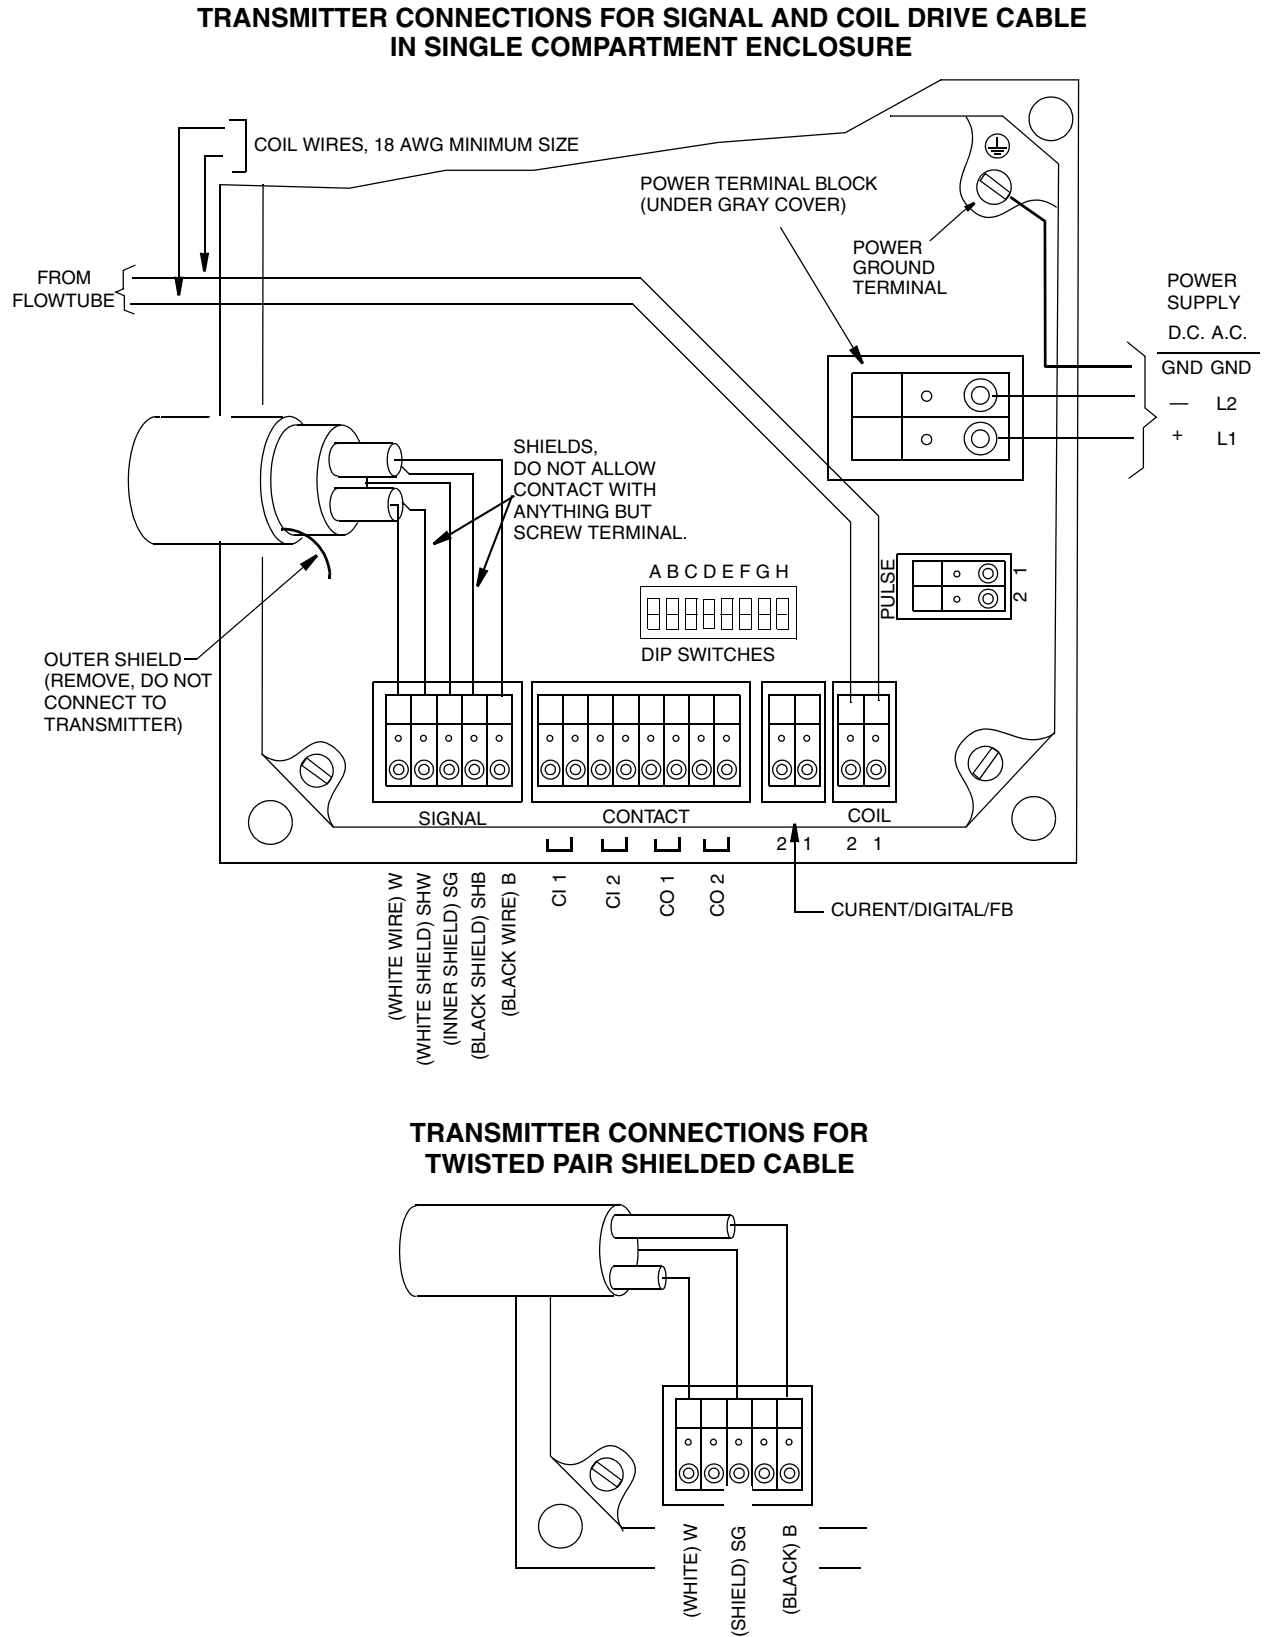

Figure 15. Wiring of IMT25 Transmitter Single Compartment Enclosure
10. Connect the signal wires from the flowtube to the transmitter input terminals as shown in Figures 15 and 16.
12. Connect the coil-drive wires to the transmitter terminals as shown in Figures 15 and 16. Tighten the optional gland compression nuts, if applicable.
7. Connect the input-signal wires from the flowtube to the transmitter input terminals (see Figures 15 and 16).
9. Connect the coil-drive wires to the transmitter terminals as shown in Figures 15 and 16. Tighten the optional gland compression nuts, if applicable.